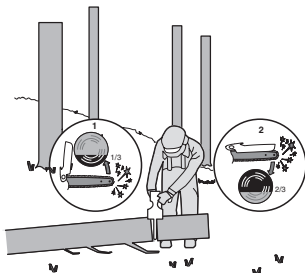

Figure 3
When the log is supported on one end, as illustrated in Figure 3, cut 1/3 the diameter from the underside (underbuck) (1). Then make the finished cut by overbuck (2) to meet the first cut.